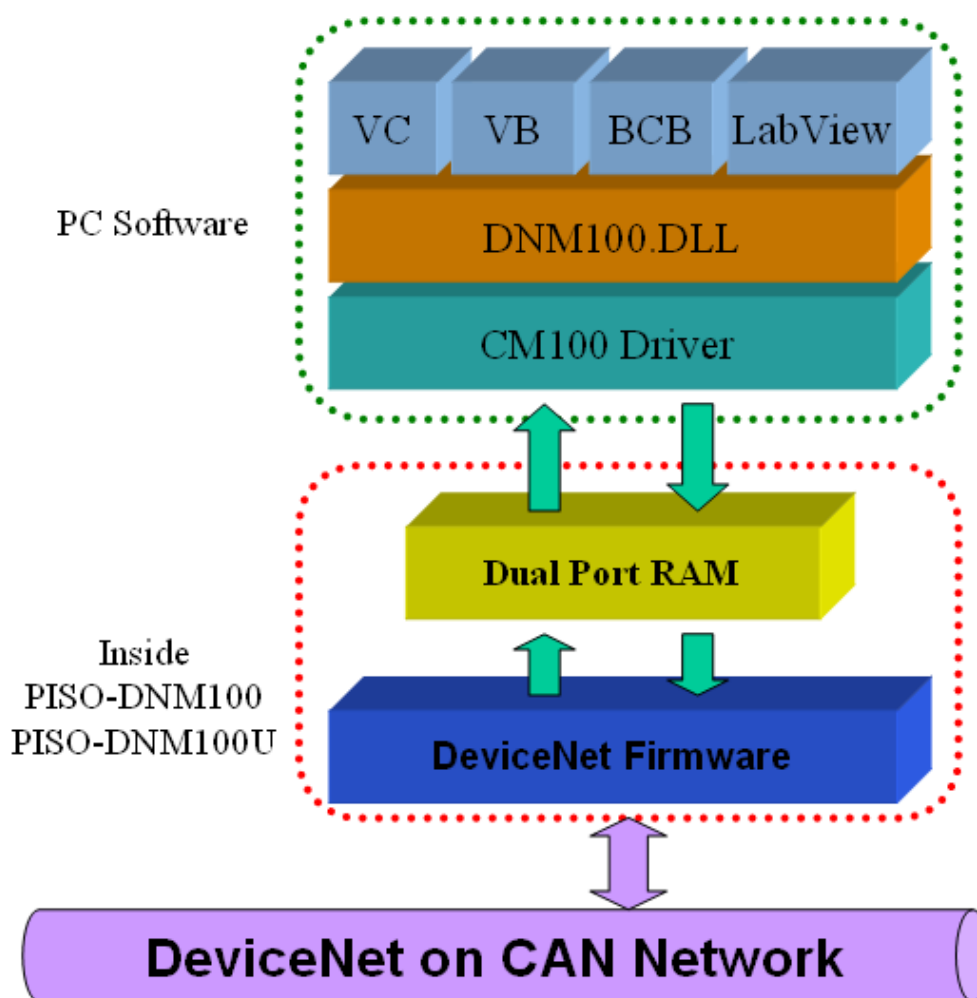

Figure 1.2 PISO-DNM100(U) illustration.
1.3 PISO-DNM100(U) Architecture
The PISO-DNM100(U) provides users to establish DeviceNet network rapidly by Master/Slave connection model. The PISO-DNM100(U) is a high-performance DeviceNet master board with one CPU inside. This architecture of the PISO-DNM100(U) almost doesn't cost CPU resource and really increases the work efficiency on DeviceNet network. Applying the PISO-DNM100(U), users don't need to take care of the detail of the DeviceNet protocol. The inside firmware implements the DeviceNet protocol to help users to establish the connection with DeviceNet slave devices easily. The illustration about the idea is shown as Figure 1.2.